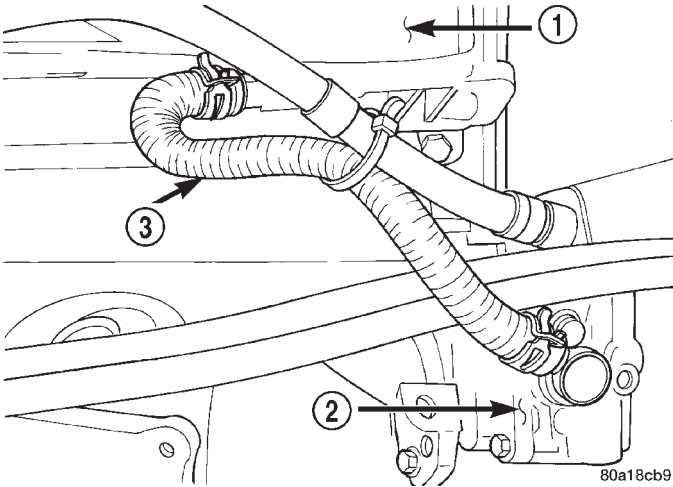

Fig. 10 Power Steering Fluid Supply Hose
(2) Remove the tie-strap (Fig. 10) holding the power steering fluid supply hose to the power steering pressure hose.
(3) Remove hose clamp, attaching power steering fluid supply hose to power steering fluid reservoir (Fig. 10). Then remove power steering fluid supply hose from power steering fluid reservoir.
(2) Install power steering fluid supply hose on power steering fluid reservoir fitting. Install hose clamp on power steering fluid supply hose at power steering fluid reservoir (Fig. 10). **Be sure hose clamp is installed on supply hose past upset bead on power steering fluid reservoir.**
(3) Install power steering fluid supply hose on power steering pump fitting. Install hose clamp on power steering fluid supply hose at power steering pump fitting (Fig. 10). **Be sure hose clamp is installed on power steering fluid supply hose**
(4) Install the tie-strap (Fig. 10) holding the power steering fluid supply hose to the power steering pressure hose.